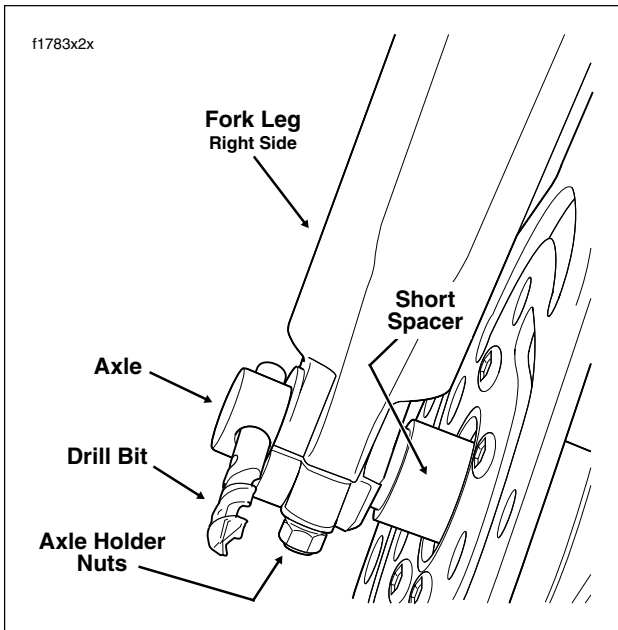

Figure 2-7. Align Front Wheel
7. Insert 7/16 inch drill bit into hole in axle. See Figure 2-7.